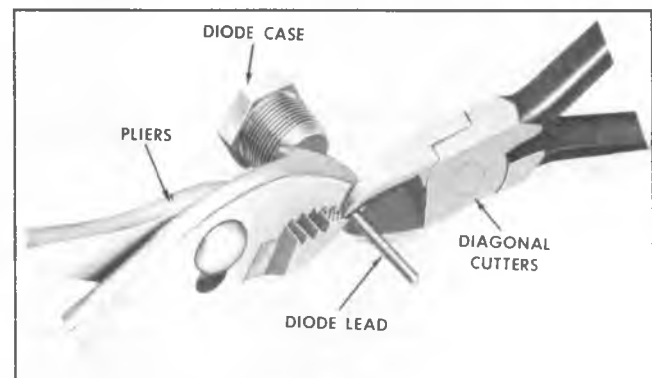

Fig. 14C--Cutting Diode Lead
**NOTE:** If diode is to be assembled into the heat sink to an overall length of 1-3/8" (fig. 14C), do not grip the diode case when cutting the lead as this will damage the diode internally.